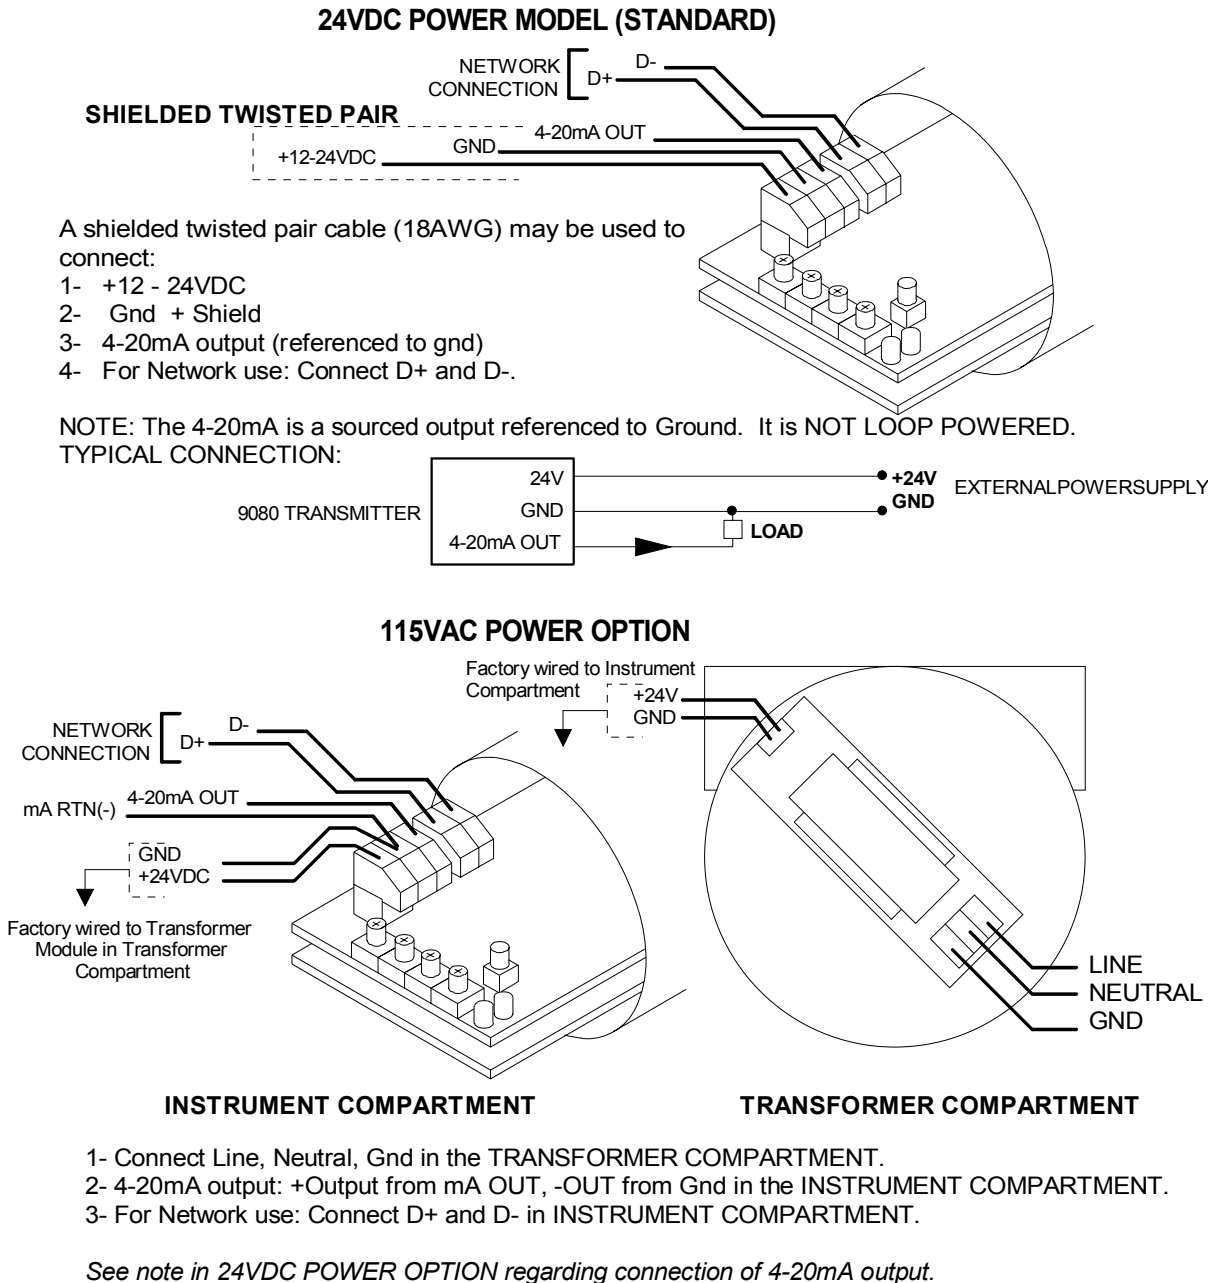

Figure 2.1
3. mA output does not match the level.	First determine if the problem is in the mA output or the unit is not calibrated to the vessel. <ul style="list-style-type: none"> • Unlock the unit by setting the value switches to 999 and the Function switch to 0. Then press the Enter pushbutton. The CAL LED should start to flash indicating the unit is unlocked. • Set the Function key to 4. • The value keys now set the mA output. The rightmost (least sig. digit) is the first place of decimal. For example, setting the value keys to 150 should set the mA output to 15.0mA. The resolution is 0.08mA. • If the mA output tracks the key settings then make sure the mA action (direct or inverse) is set as desired. See section 3 for details. If the action is OK then try recalibrating the unit. • If the mA output does not track the value settings then call Arjay Technical Support. • To lock the unit and enter normal operation set the Function switch to 0 and press the Enter pushbutton. The yellow LED should stop flashing. • IMPORTANT: THE UNIT SOURCES mA OUT FROM THE mA OUTPUT TERMINAL. THIS TERMINAL SHOULD NOT BE CONNECTED TO +24V. IT IS NOT A 2 WIRE mA TRANSMITTER. See Figure 2.1 for electrical hookup details.